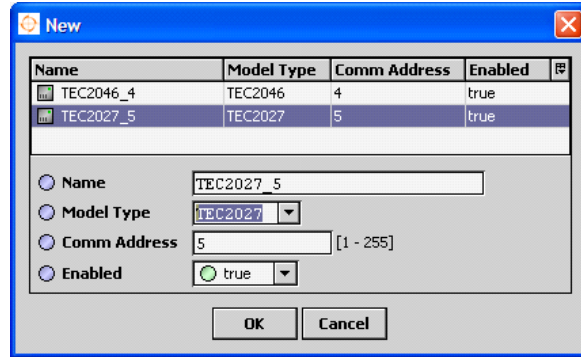

Figure 12: New Dialog Box
6. Click OK. Another New dialog appears (Figure 12).